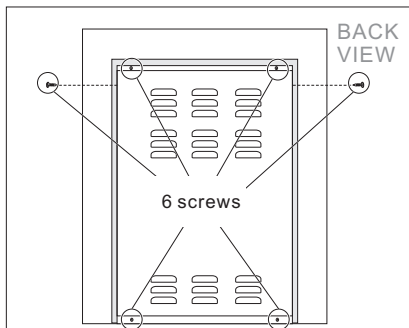

Figure 9
- 1/ Turn unit backwards, there are 6 screws that hold the unit's back plate in place, 4 symmetrically on each corner, and 2 on the side of the back plate near the top (Figure 9).
- 9/ Secure the back plate of the unit to the main unit by reattaching the 6 screws that was removed from step 1. (Figure 9)